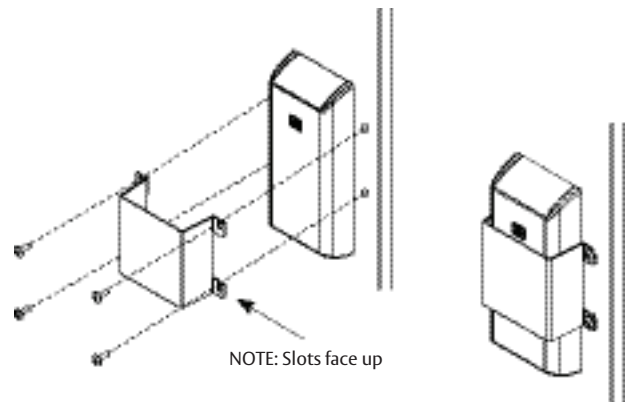

Figure 7-17
1. Install shield (provided) over inside controller (Figure 7-17).
3. Secure shield with the four (4) #8-32 machine screws.